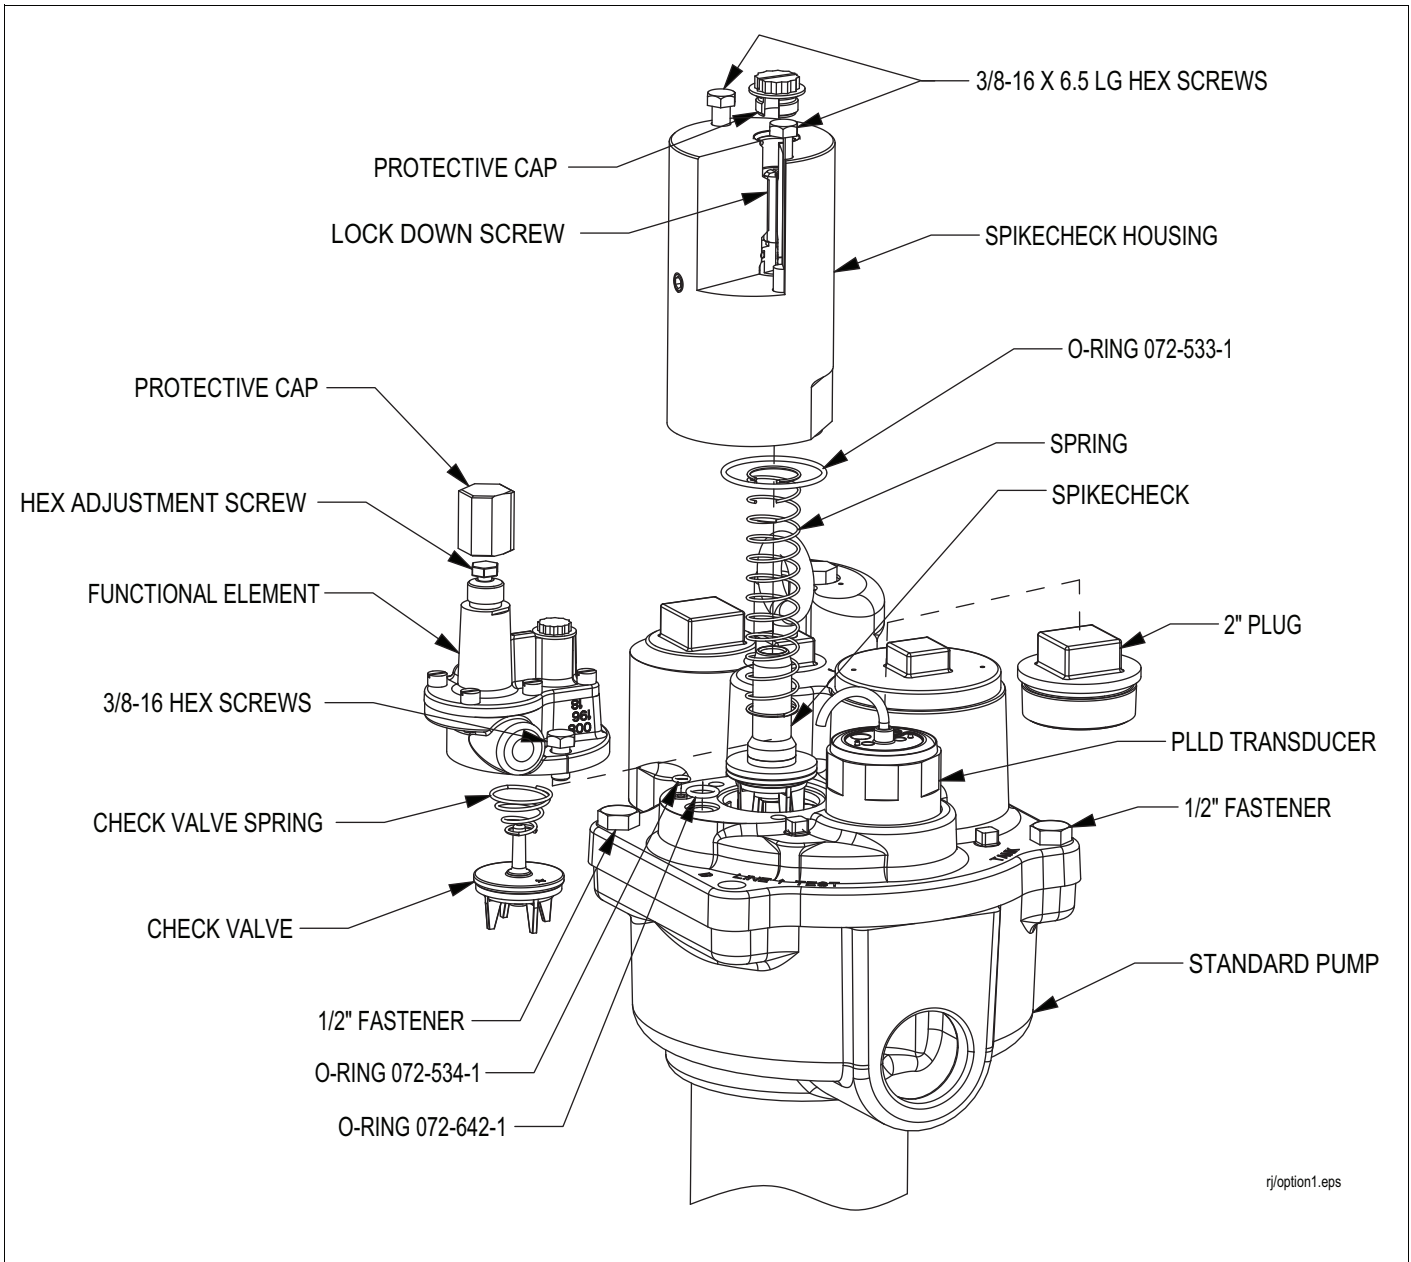

Figure 1. Option 1 - Converting a Standard Packer/Manifold Containing a Functional Element
2. Depressurize the packer by removing the protective cap on the functional element and rotate the hex screw counterclockwise to relieve pressure back to the fuel storage tank (See Figure 1).